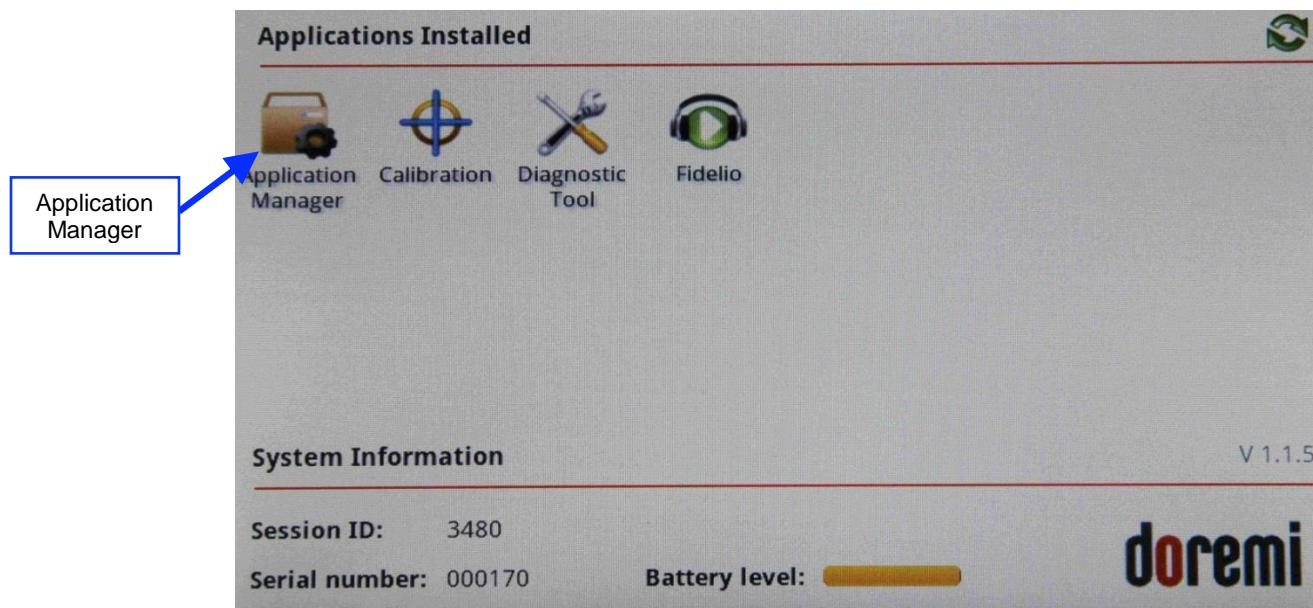

Figure 71: Application Manager
Application Manager: This application is used for updating the Fidelio tablet to a new version when required (Figure 71).
- Launch the Application Manager (Figure 71). The app will list the available packages on it.